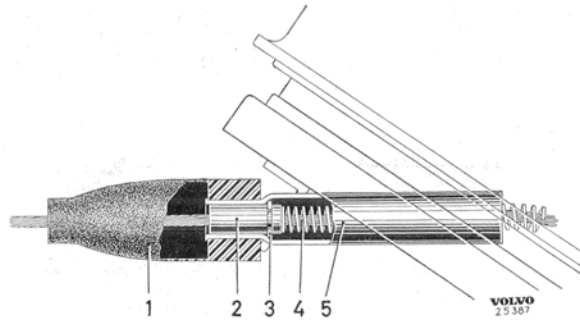

Fig. 33. Cable guide.
2. Insert the cable and guide sleeve through the support in the body and then through the tube in the brake backing plate and fit locking washer (3, Fig. 33) and then place the guide sleeve in position. Fit the cable to the lever. Pull on the rubber casing.